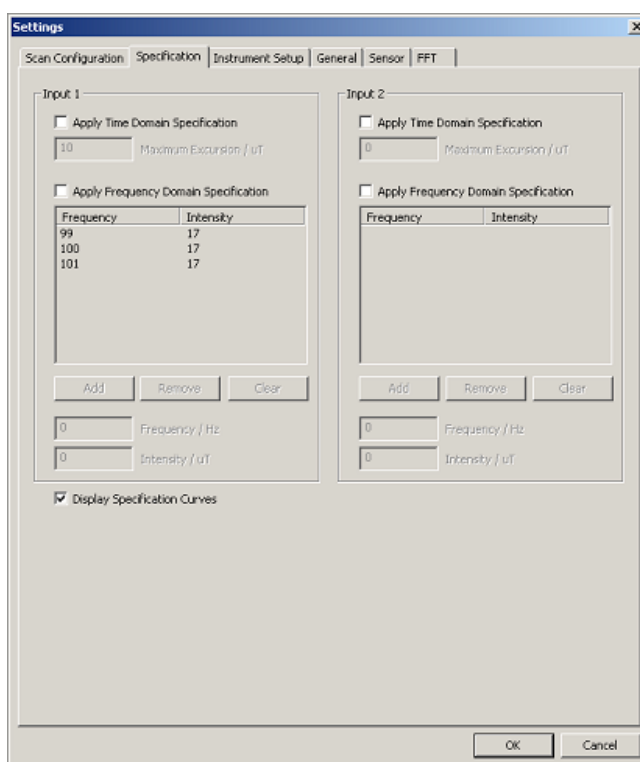

Figure 14b. Process of data acquisition.
(2) The **Specification** sub-menu (**Figure 14b**) lets the user set the peak excursion of the input signal at which a test should fail.
Up to three values should be added very close to the value of interest. For example, to detect a  $17\mu\text{T}$  peak at 100Hz, enter three values as shown in **Figure 14b**.